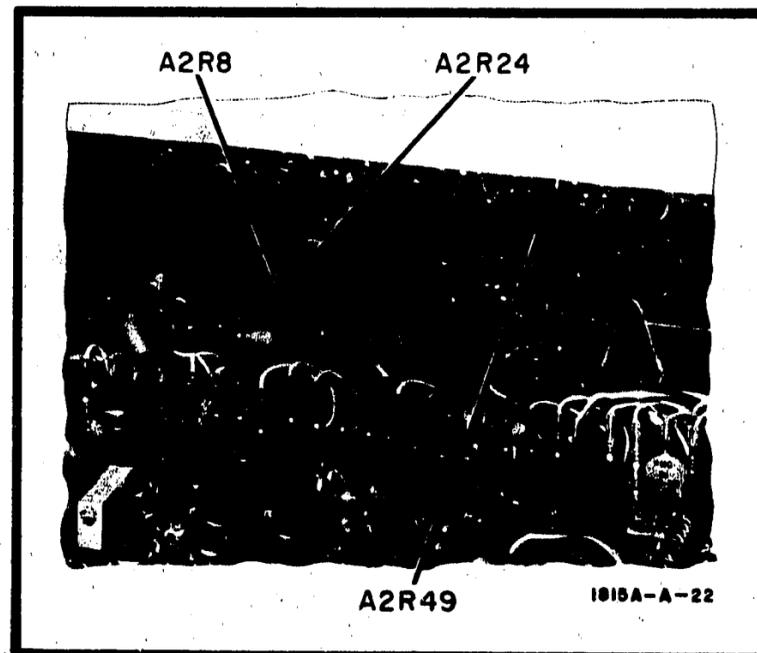

Figure 5-13. Bias and Level Adjustments
e. Adjust STEP DLY potentiometer A2R49 to position the step on the third graticule line (two divisions). (See Figure 5-13 for location of A2R49.)